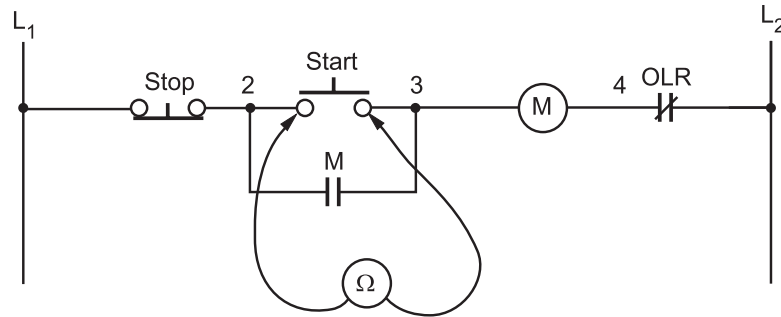

Figure 9—Testing the START button with an ohmmeter
6. Now test the START button. Inspect the push-button for obstructions. Turn off the power to the circuit. Use an ohmmeter as in Figure 9 to test for continuity of the START button when it is pressed.